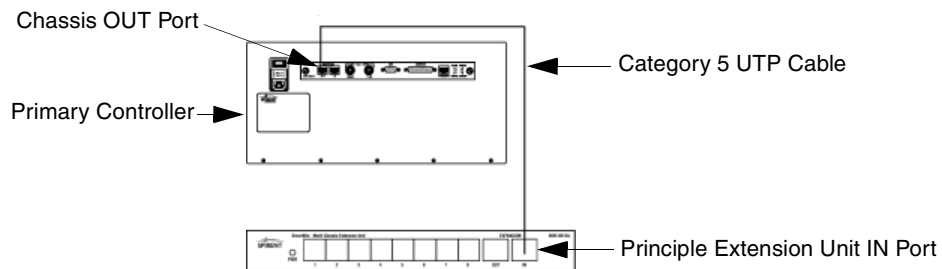
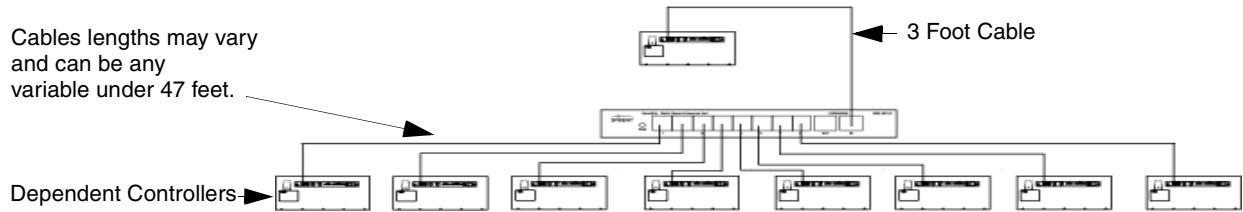

Figure A-9. Initial Connection of a SmartBits Chassis to an Extension Unit
Figure A-10. Connecting SmartBits Chassis to an Extension Unit
The primary SmartBits chassis connection that measures from the *Primary Controller* (or #1 chassis) to the *Principle Extension Unit* (see Figure A-9) determines the maximum cable length of subsequent cables used between a SmartBits chassis connected to the Multi-chassis Extension Unit.
To determine the cable length limitation for these connections, subtract the length of the *Primary Controller/Principle Extension Unit* cable from 50 feet (15.24 meters). In the example shown in Figure A-9, the cable used to connect the master chassis to the *Principle Extension Unit* is 3 feet in length. Therefore, the maximum accumulative cable length from the extension unit to all directly connected chassis (see Figure A-10 on page 79) can be any variable under 47 feet ( $50 - 3 = 47$ ) in length.
- 1 Connect a cable from the expansion OUT port of the *Primary Controller* to the IN port on the *Principle Extension Unit* as shown in Figure A-9.
- From each of the *Principle Extension Unit's* eight ports, connect up to eight *dependent controllers* IN ports as shown in *Figure A-10* below.